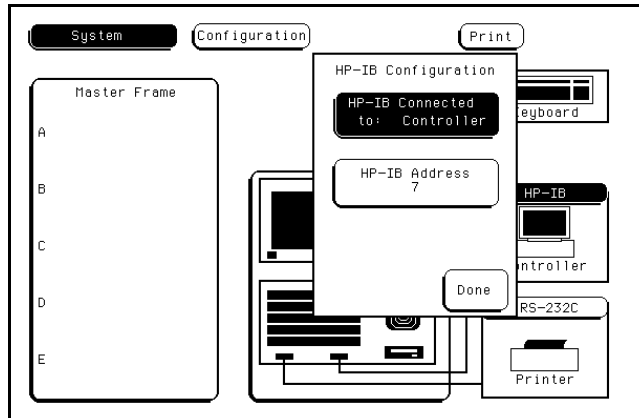

Figure 2-6. HP-IB Configuration Menu
2. Touch the **HP-IB** field to obtain the HP-IB Configuration Menu. See figure 2-6.